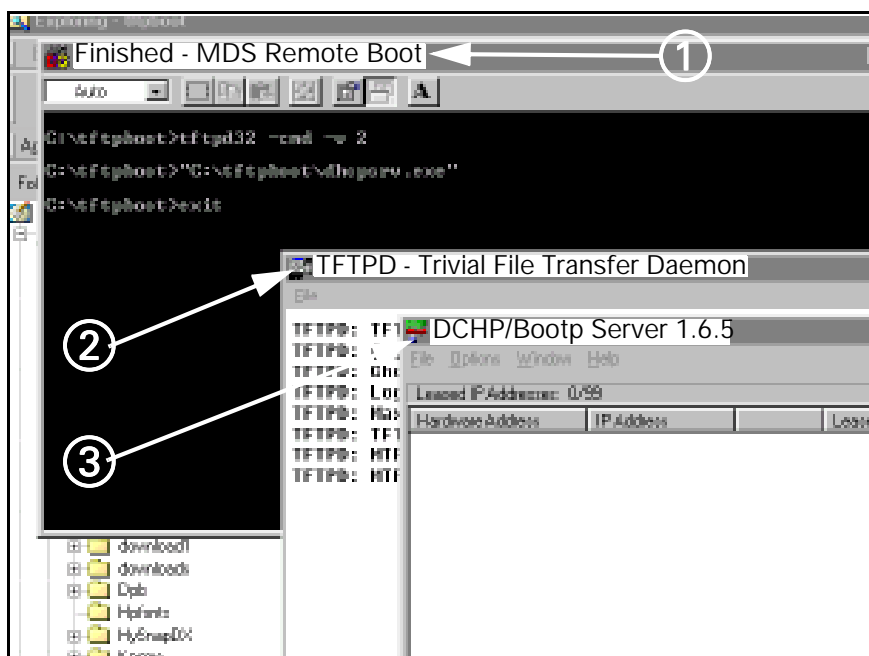

Figure 8-13 Window TFTPd
- 5) Verify "Finished - MDS Remote Boot" window (① in Figure 8-13) opens, then "TFTPD - Trivial File Transfer Daemon" window (② in Figure 8-13) opens, then DHCP/Bootp Server 1.6.5 window (③ in Figure 8-13) opens. If these windows are not displayed repeat steps 2-4 above.
Note: DHCP/Bootp Server 1.6.5 window may open minimized. If window is not displayed on Main screen, (③ in Figure 8-13) check to see if program is in Windows Task bar at bottom of screen.